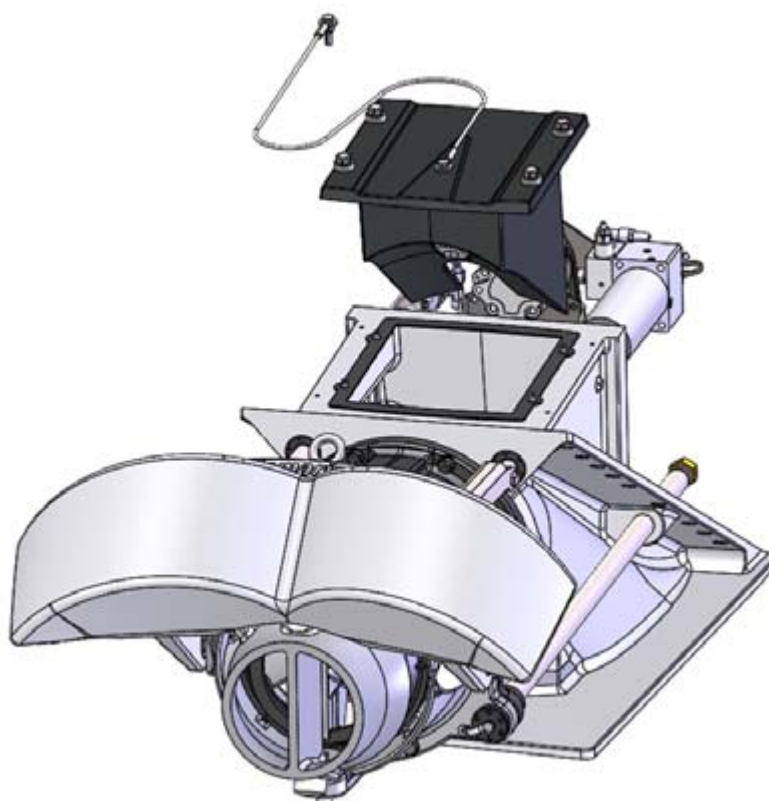

Figure 41. Opened inspection hatch
1. Open the inspection hatch (figure 41).